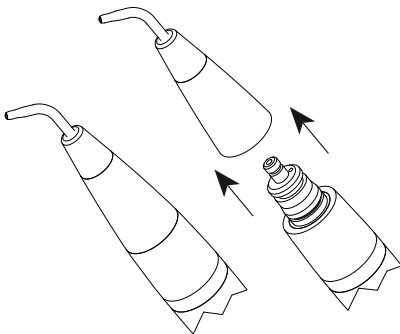

Fig. 7
- 1 Remove the front head from the polisher handpiece (Fig.7).
- 2 Remove the front terminal from the polisher handpiece (Fig 7).
- 1 Remove the front terminal from the polisher handpiece (Fig 7).
- 1 Remove the front terminal from the polisher handpiece (Fig.7).